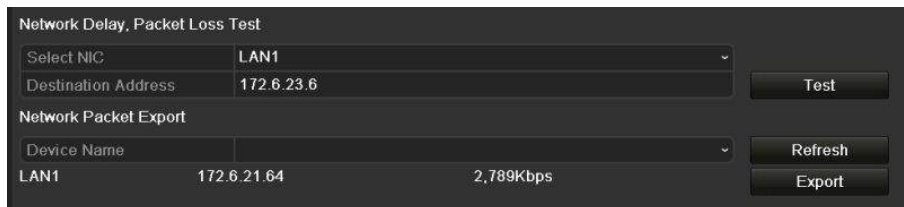

Figure 11. 29 Network Detection Interface
2. Click the **Network Detection** tab to enter the Network Detection menu, as shown in Figure 11. 29.